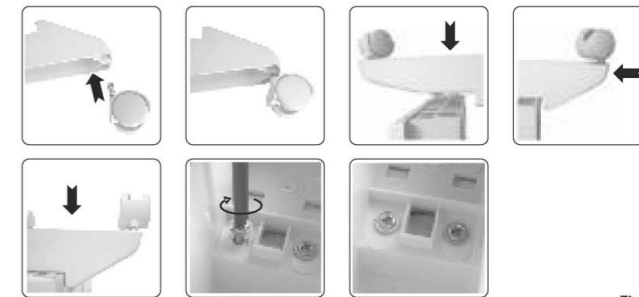

Fig. 6
3. Insert the wheels into the support, as shown in Figure 6. Remember that the wheels have a special pin/screw for more convenient mounting of the wheels to the support.